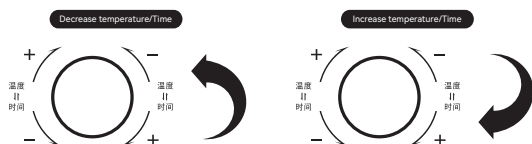

Figure 4
- ① Rotate the knob to set the temperature between 500°C (min) and 800°C (max).
- ② Rotate counterclockwise to decrease temperature (-) and clockwise to increase (+) (see Figure 4).
- ① Click the knob once. A short beep will sound, and the time display will flash, entering timer mode.
- ② Rotate the knob to set the countdown (30 seconds to 10 minutes). Counter-clockwise reduces time; clockwise increases it (see Figure 4).
- ③ Click the knob again to start the countdown. During countdown, click to reset.
- ④ After countdown, the buzzer will beep 5 times, but heating continues.
- ① Long-press the knob until the display shows "OFF." Heating stops, but the fan continues for 10 minutes.
- ② Do not turn off the power switch until the fan stops.
- ③ After the fan stops, turn off the power switch and unplug the device.